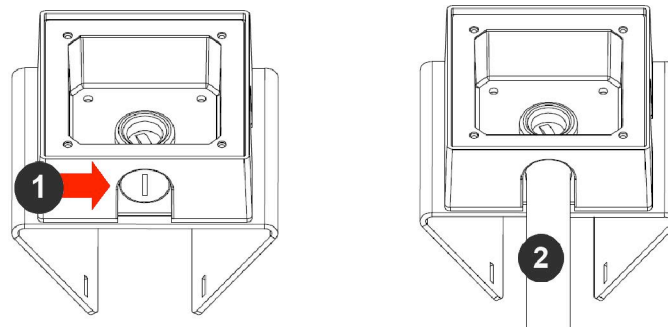

Figure 1: Attach conduit to AV-JBA junction box adapter
3. Attach the Junction Box Adapter to the Pole Mount Adapter as shown in Figure 1.
4. Remove the conduit plug on the junction box adapter and connect ¾" NPT conduit to the junction box adapter (Figure 1).